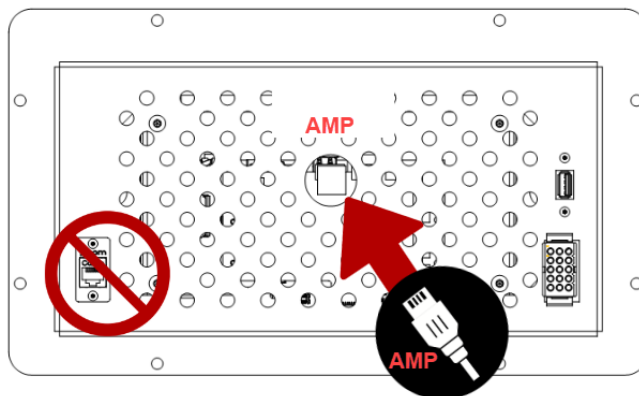

Figure 5: Rear Controller RJ45 Connection
6. Connect the flange controller to the Apogee® Flange process module via the 15-pin cable and RJ45 connector. The RJ45 connector is labeled 'AMP' and should *only* be connected to the amp port in the center of the back of the main controller. **Connecting this cable to the incorrect port may cause damage to the equipment.** See Figure 5 for details.